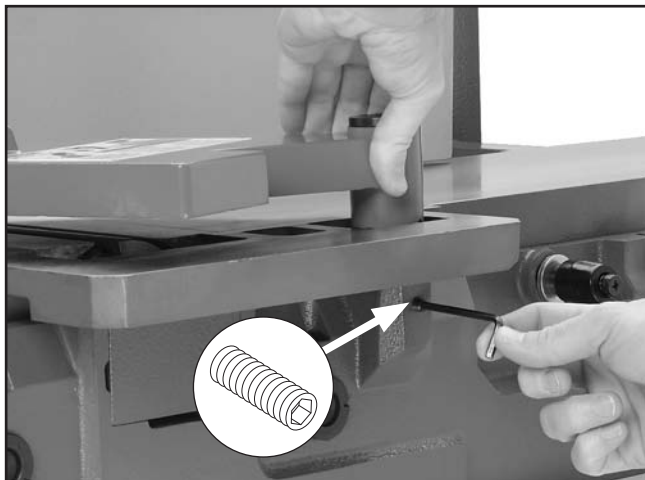

Figure 25. Installing the cutterhead guard.
29. Insert the cutterhead guard shaft into the extension fence, as shown in **Figure 25**, so the shaft flat is facing the set screw, then tighten the set screw against the shaft.